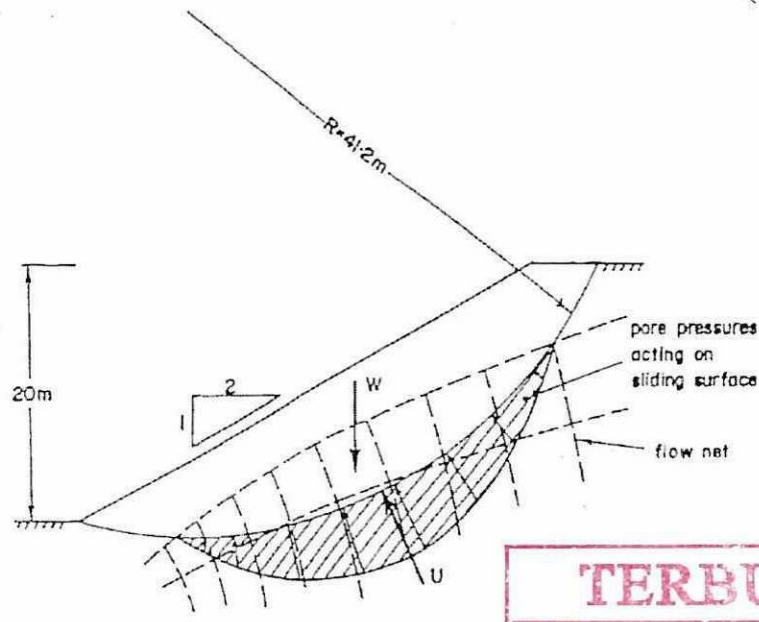
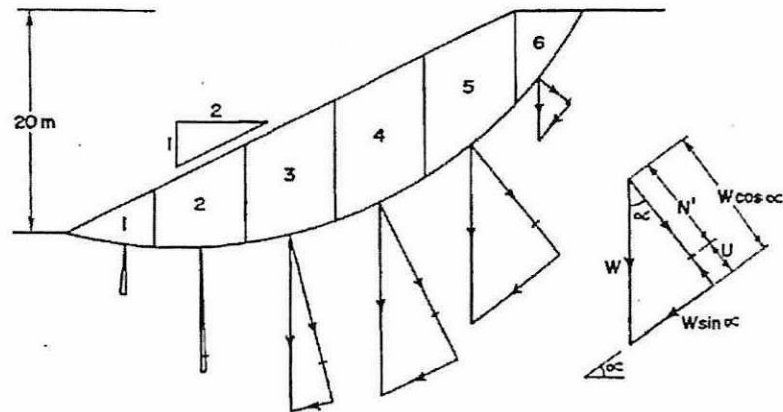

Figure Q4.1: Potential failure surface
Figure Q4.2: Slices of slope
- (c) A potential slip circle of slope is shown in **Figure Q4.1**. The slope is partially saturated. By using the Ordinary Method of Slices as shown in **Figure Q4.2**, determine the factor of safety for the slope undergoing seepage and for the failure surface shown. The soil properties are as follows: